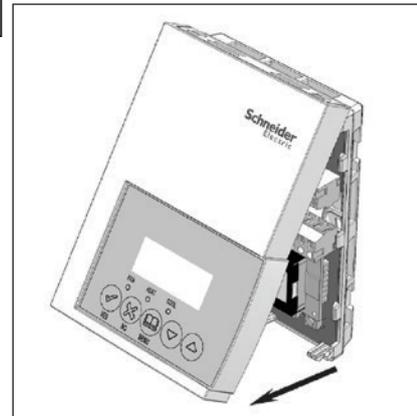

Figure-1 Opening the Cover
- Open the unit by pulling on the bottom side of the sensor (Figure-1).